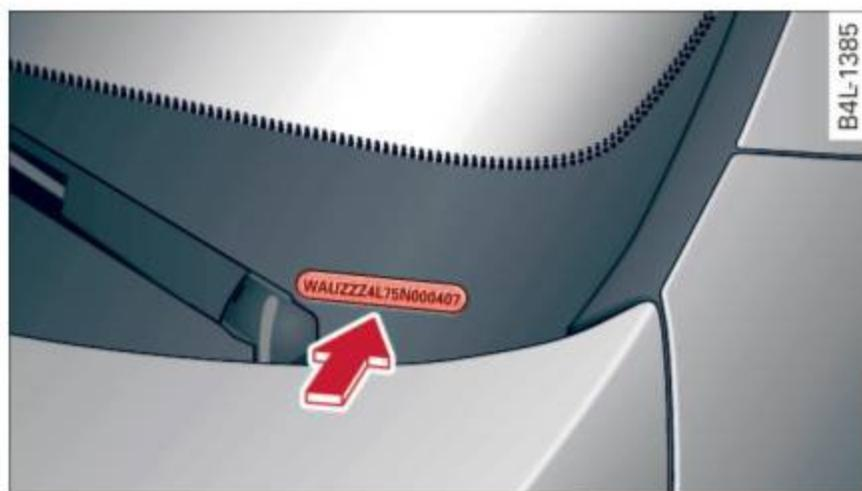

Fig. 195 Vehicle Identification Number (VIN) plate: location on driver's side dash panel
- under the windshield on the driver's side ⇒ *fig. 195*.